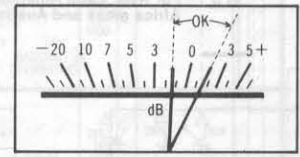

Fig. 20
4. At this time, confirm that the level meter reading is within a range of -1.5 dB to +1.5 dB (shown in fig. 20). (Confirm this for both for L and R channels.)